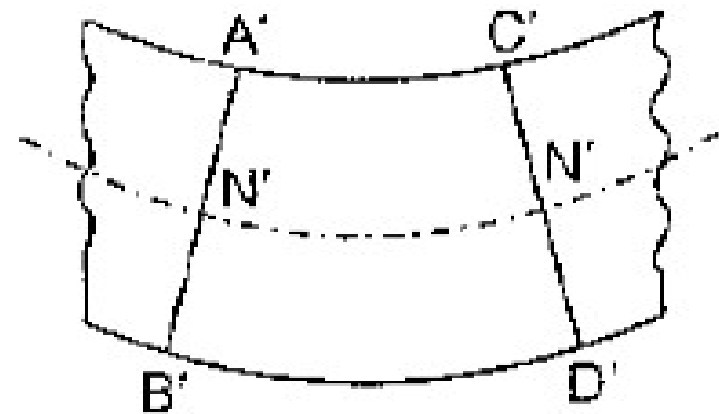

Figure 2
- Due to the action of the bending moment the part of length δx will be deformed as shown in Figure 2.
- From Figure 2 it is clear that some layers have been shortened while some of them are elongated.